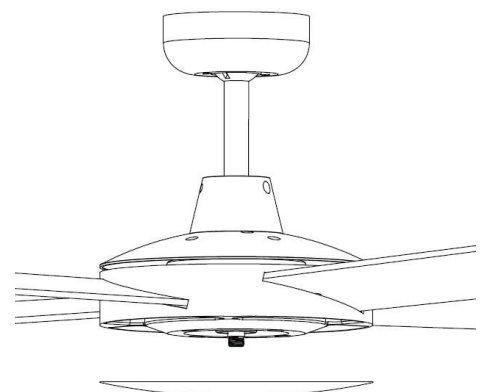

Fig. 7
5. Reinstall the cover via turning it clockwise. Fig.7